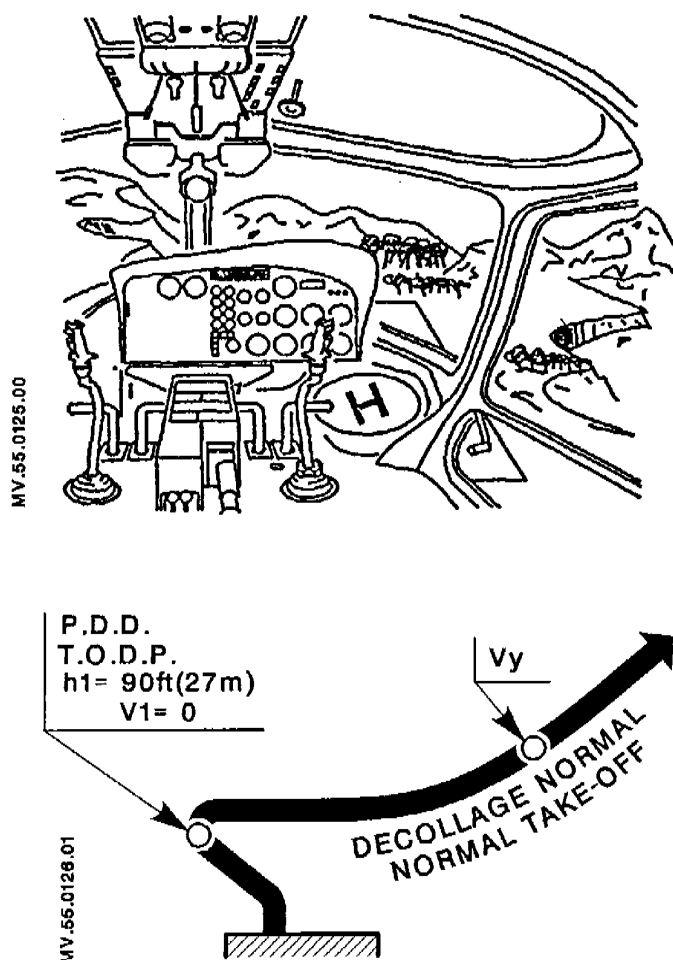

Figure 5
4.1.1 Normal takeoff procedure (figure 5)